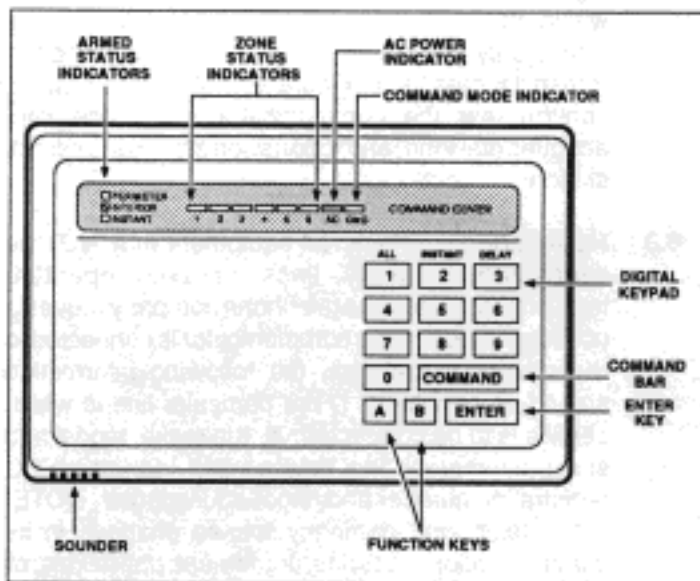

Figure 5: D420A COMMAND CENTER KEYPAD
- 7.5 **The Display Panel** - The display panel for the D420A Command Center annunciates four different types of status: arming, zone, AC power, and Command Mode (see Figure 5).
Zone Status: The D420A contains six *numbered* indicator lights, which are used to annunciate the condition of the D4112 protective zones (see Figure 5).